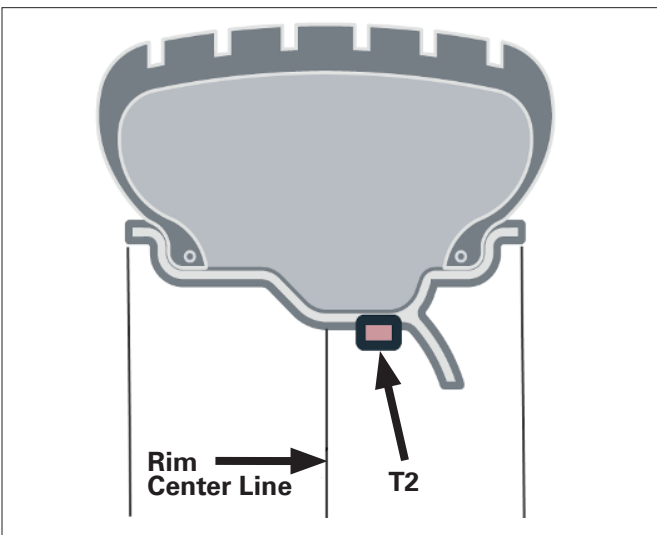

Figure 15a - Weight As Far Inward On Rim As Possible
**Note:** Choose a weight position as far inward (in the rim) as wheel allows (figure 15a). If weight can't be placed outside of wheel center, then Dynamic Balancing can't be calculated.